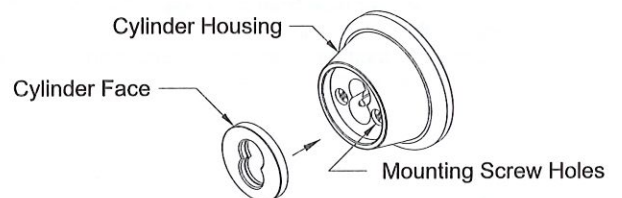

Figure 11
- To cover the mounting screw holes, put the cylinder face into the cylinder housing. See Figure 11.